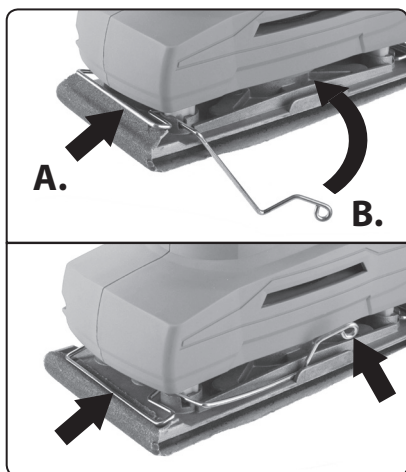

Fig. 3
- 3) **Whilst holding down the sandpaper sheet on the base plate of the sander, ensuring that the holes in the sandpaper and base plate remain aligned, insert one end of the paper under the clamp and lock the clamp in place again. This will securely clamp the sandpaper sheet in place, see fig. 3.**